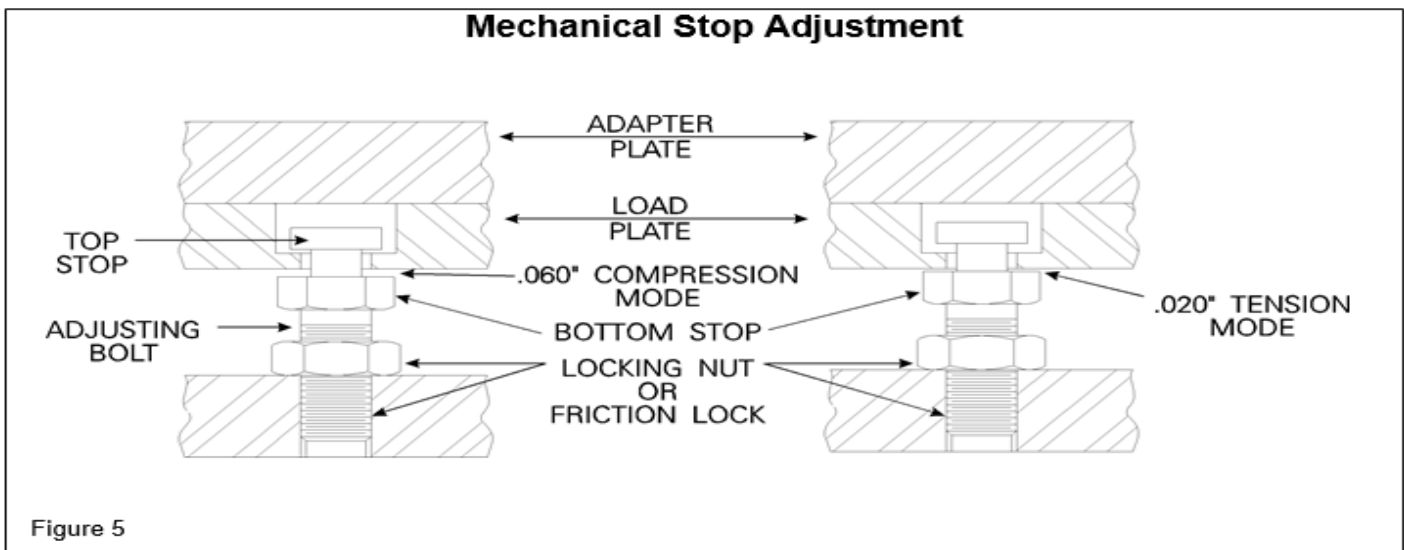

Figure 5
2. Using a open end wrench and a dial indicator or feeler gauge, adjust the Mechanical Stop for the required clearance between the Load Table and the Mechanical assembly (Refer to Figure 5 & 6). This is accomplished by having the Tare applied and the Load Table not in contact with the Mechanical Stop.